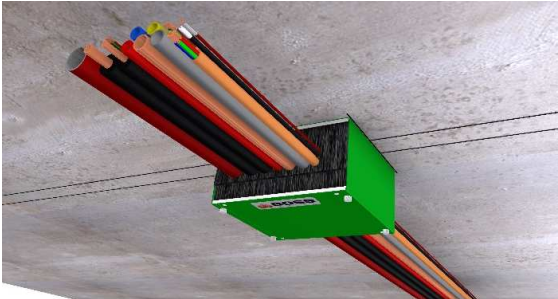

Fig. 2 – Install services and secure sliding lid
5. Install the lid by resting it on the flanges & sliding it into place. The Smoke Brushes will shape themselves around the penetrating services and when closed, the Smoke Brushes can easily be tucked into place by hand. Secure the lid using the four thumb screws provided. (Fig. 2)